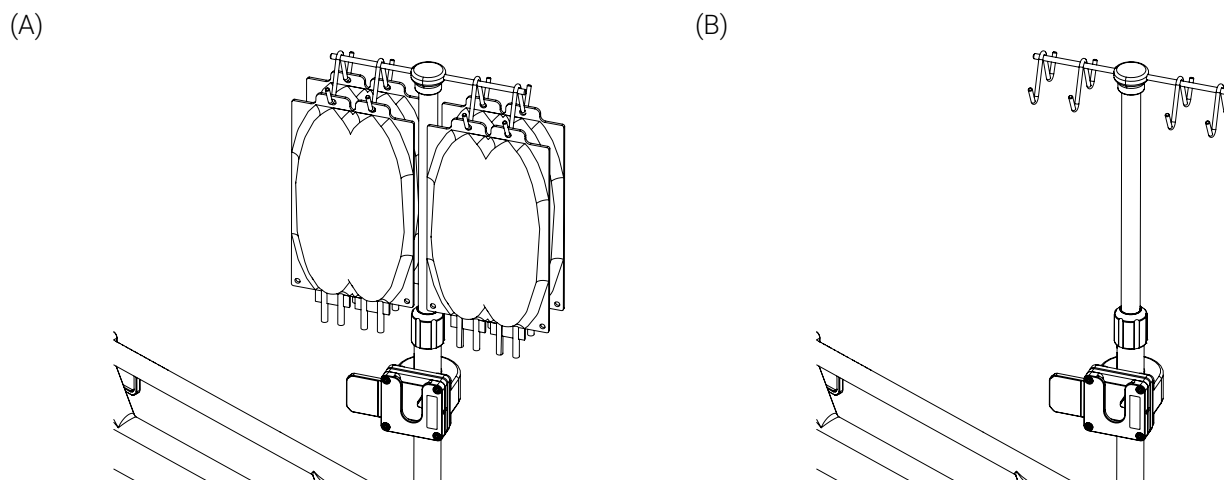

Figure 56: Removing the IV bag(s) from the hook(s) of the IV pole
1. Lift and remove the IV bag(s) from hook (Figure 56). Refer to the manufacturer's Use Manual and to your established internal protocols if needed.